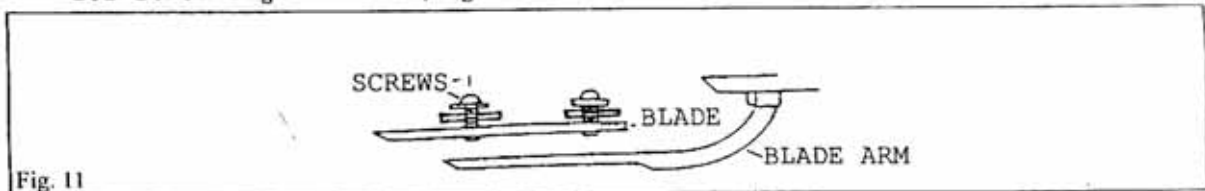

Fig. 11
2. Or Place screw through the blade and start the screw into the blade arm repeat this procedure without tightening the screw until all 3 screws have been started into the blade arm (Fig.11). As most fan use concealed screw blades arms, screws may not go through the whole blade arms.